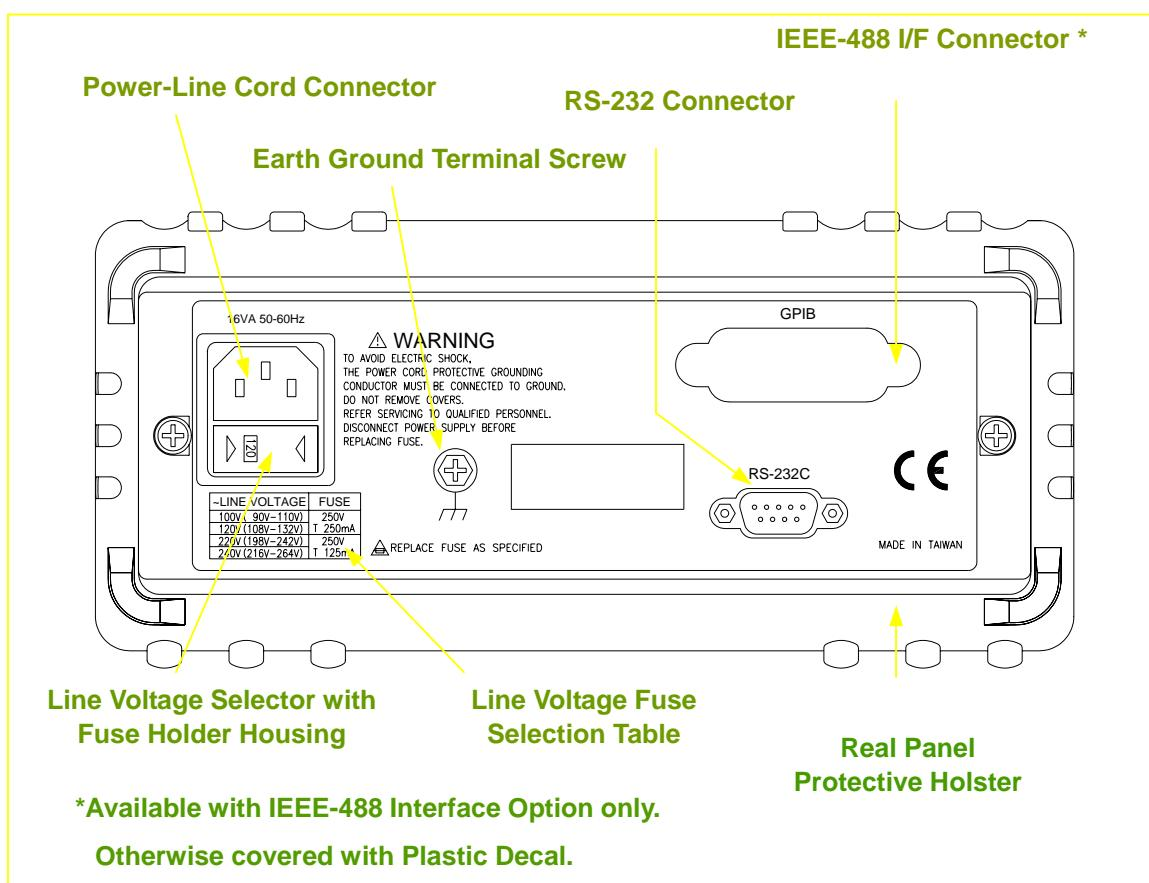

Figure 2-2. Rear Panel
The rear panel (shown in Figure 2-2) contains a line fuse, the power-line cord connector, an RS-232 interface connector, and a cutout for IEEE-488 interface (optional) connector.
- Figure 2-2 illustrates the location of the Line Voltage Selector with Fuse Holder housing. If user has already done so, plug the line cord into the connector on the rear of the meter. The meter will operate at any line voltage between 90Vac and 264Vac when “line voltage selector” is set properly, and its frequency range is at 50/60Hz. For operation safety, DO NOT APPLIES a line voltage that exceeds the range specified to line cord connector on the rear panel of the meter.